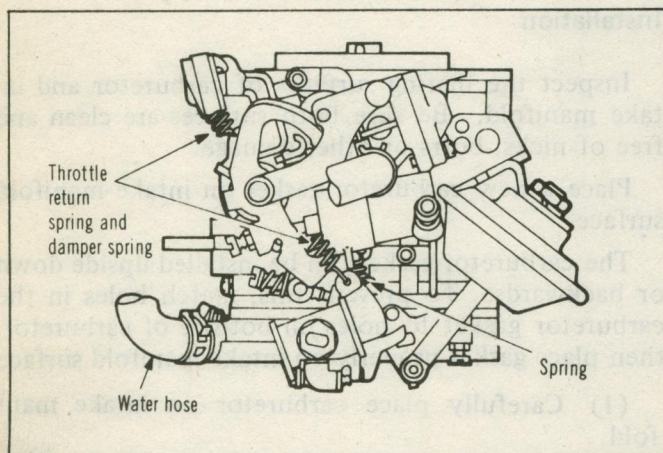

Fig. 20 Removing Springs
- (1) Disconnect the water hose.
- (2) Remove the throttle return spring and damper spring. (Fig. 20)
- (3) Remove the throttle adjuster lever spring and secondary return spring. (Fig. 20)